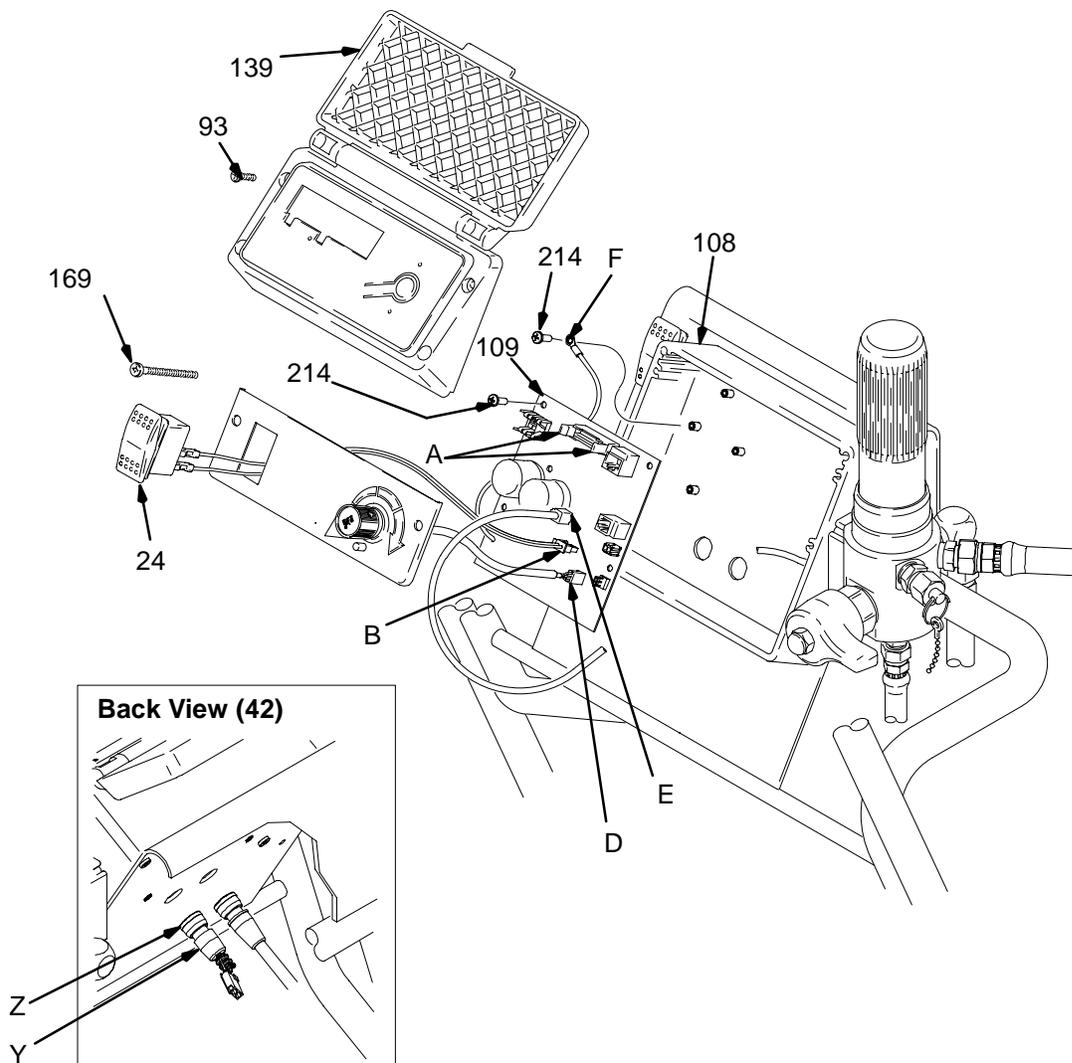

Fig. 6
2. Fig. 6. Remove four screws (93) and display/cover (139).
3. Pull display connector wings (A) open on PC board and pull display connector out.
4. Disconnect ON/OFF switch connector (B) from PC board.
5. Press in on two retaining tabs on each side of ON/OFF switch (24) and remove switch.
- Fig. 6. Remove four screws (93) and display/cover (139). Pull display connector wings open on PC board and pull display connector out.
- Lead (D) from potentiometer.
- Lead (E) from transducer.
- Remove ON/OFF switch (24) connector (A).
- Fig. 6. Remove six screws (214) from control board (109) and green ground wire.
- Remove two connectors (Y) at backside of pressure control. Remove jam nuts (Z) and control board (109).
- Fig. 6. Install control board (109) and jam nuts (Z). Install two connectors (Y) at backside of pressure control.
- Install green ground wire and control board (109) with six screws (214).
- Connect ON/OFF switch (24) connector (A).
- Lead (E) to transducer.
- Lead (D) to potentiometer.
- Fig. 6. Push display connector into PC board close display connector wings on PC board. Install display/cover (139) with four screws (93).
- Fig. 6. Remove four screws (93) and display/cover (139).
- Disconnect lead (E) from control board (109).
- Remove two screws (201) that connect control housing (108) to filter housing (200e). From inside of control box, pull transducer connector through control housing (108).
- Fig. 6. Install o-ring (200r) and pressure control transducer (200p) in filter housing (200e). Torque to 30–36 ft-lb.
- Install transducer cable through control box. Install filter housing and spacer to control box with two screws (201).
- Connect lead (E) to motor control board (109).
- Install display/cover (139) with four screws (93).
- Disconnect lead (D) from control board (109).
- Loosen set screws on potentiometer knob (19) and remove knob, shaft nut, lockwasher and pressure adjust potentiometer (81).
- Remove seal (148) from potentiometer (81).
- Install seal (148) on potentiometer (81).
- Fig. 6. Install pressure adjust potentiometer (81), shaft nut, lockwasher and potentiometer knob (19).
- Turn potentiometer shaft (81) clockwise to internal stop. Assemble potentiometer knob (19) to strike pin on plate (23).
- Connect lead (D) to control board (109).